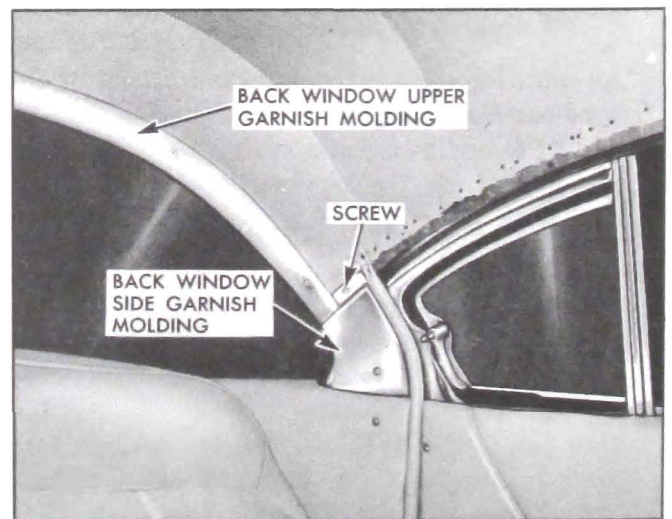

Figure 13-241—Removal of Back Window Garnish Moldings
1. Inside body detach rear portion of each side roof rail molding sufficiently to expose back window side garnish molding upper attaching screw(s) as shown in Figure 13-241.